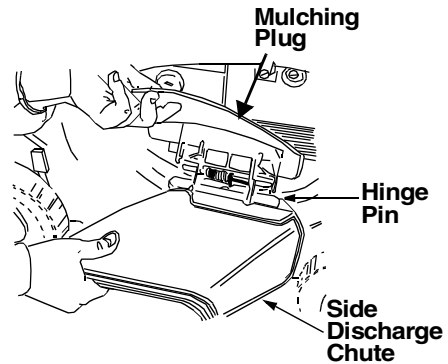

Figure 6
- Your mower has been shipped as a mulcher. To convert it to a side-discharge mower, lift the mulching plug. Slide the two hooks on the side-discharge chute under the hinge pin on the mulching plug assembly. Lower the mulching plug. See Figure 6.